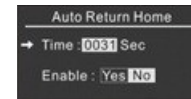

Figure 56
- o Press the Confirm key to enter the Auto Return Home Setting page (as shown in Figure 56).